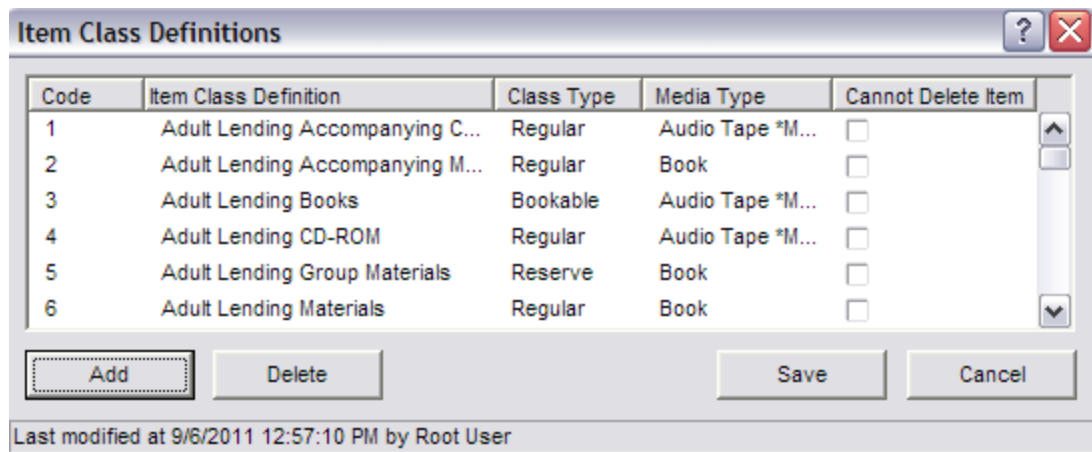

Figure 1-3. Item Class Definitions Window
The window associated with the parameter appears, where you can set your parameter values. For example, Figure 1-3 shows the window for the Item Class Definitions parameter, which is located under the System Parameters heading.
- If you have already set the parameter, the status bar displays the last modified date and time for the entire parameter, as shown in Figure 1-3.